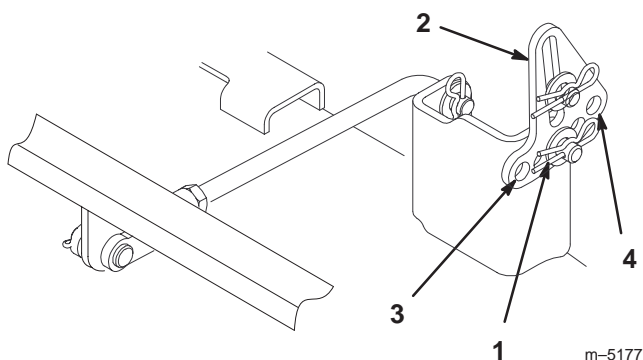

Figure 40
7. Remove the hairpin cotter and washer from the leveling bracket (Fig. 40). To level the blade(s), reposition the leveling bracket(s) in a different hole and install the washer and hairpin cotter (Fig. 40). A front hole lowers the blade height and a rear hole raises its height. Adjust both sides as required.